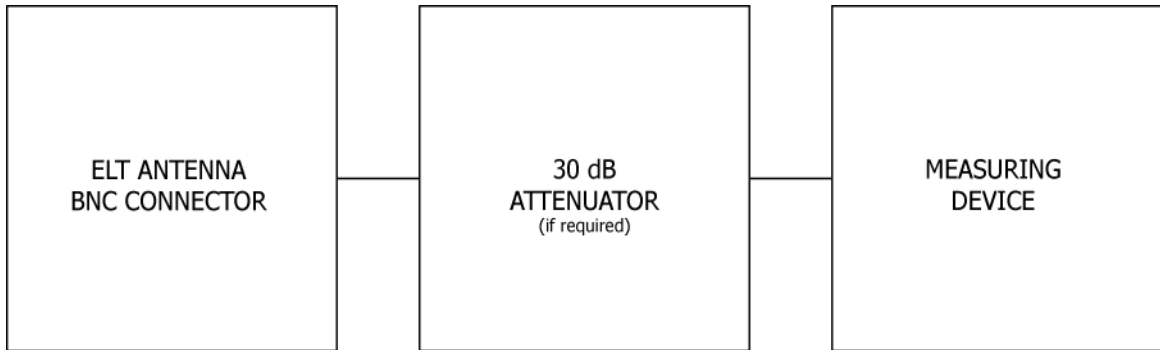

Figure 9 Performance Testing Equipment Setup
- 3) Ensure that adequate attenuation rated for 406 MHz is installed between the ELT antenna output and the measurement equipment to prevent damaging input circuitry, if required. At a minimum, the attenuator should be rated at 30 dB, and 5 watts for a ½-second duration as shown in Figure 9 Performance Testing Equipment Setup.